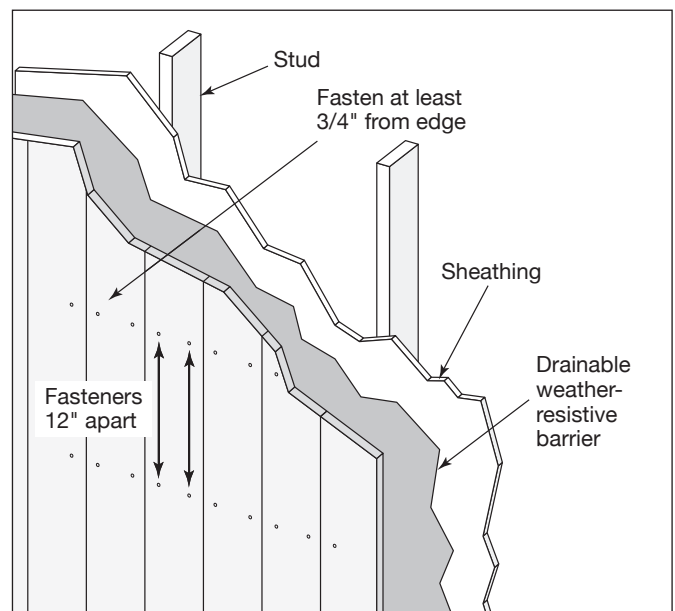

Fig. 23
- Fasten each piece of siding through the face no less than 3/4" from the edge and no more than 12" along the length of both sides of the siding (**Fig. 23**)
- In situations where the height of the home requires more than one piece of siding installed vertically, flashing is required between the ends of each board. 1/4" minimum gap is required above all horizontal flashing (**Fig. 23.**)